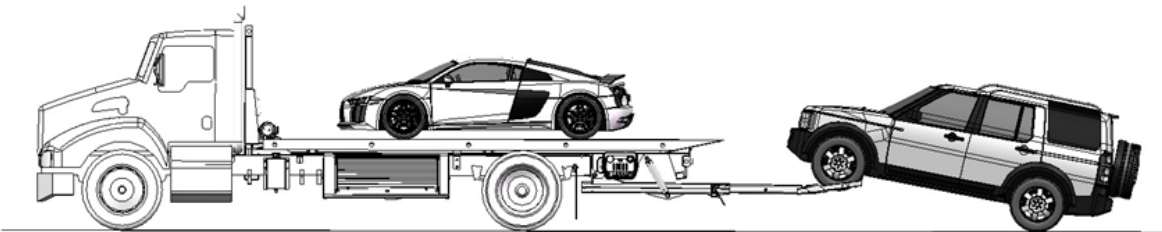

FIGURE 44 – RAISE THE TOWED VEHICLE
6. Slowly raise the towed vehicle with the wheel lift, ensuring that the vehicle remains securely in place and that the wheel lift and L-arms do not come into contact with any part of the vehicle, as shown in Figure 44.